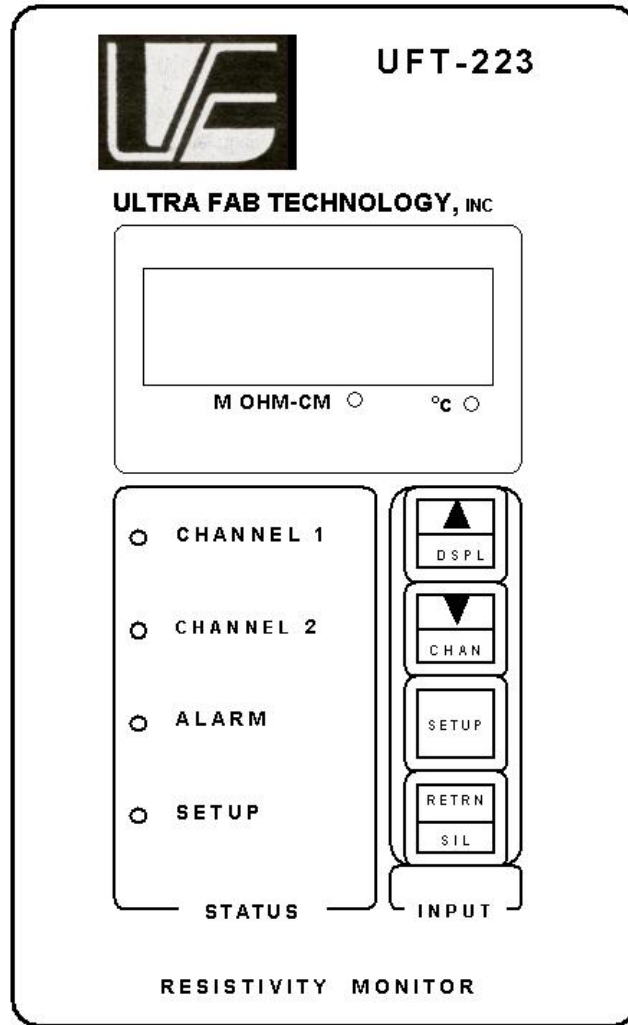

Figure 1
UFT-223 RESISTIVITY MONITOR (Figure 1)
- 9.5.3 Monitor the resistivity by selecting the proper resistivity channel on the RESISTIVITY MONITOR control pad (Figure 1). Select proper channel by pressing CHAN button (channel 1 for the QDR #1 on the right station). Make sure M OHM-CM light is on when selecting this measurement mode. Water temperature or resistivity can be monitored on the same LED display by selecting/deselecting one or the other display mode via DSPLY button.